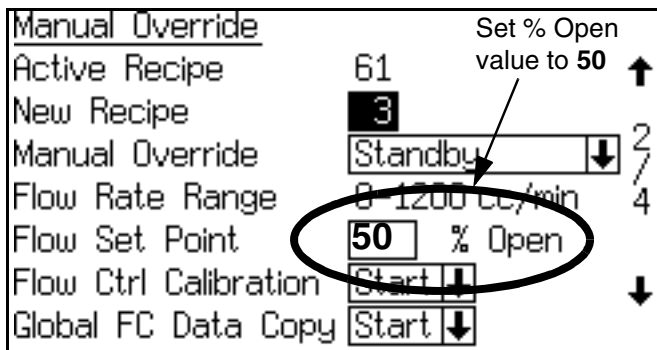

FIG. 90. Set % Open to 50 Percent
3. Set the % Open value to 50. See FIG. 90.